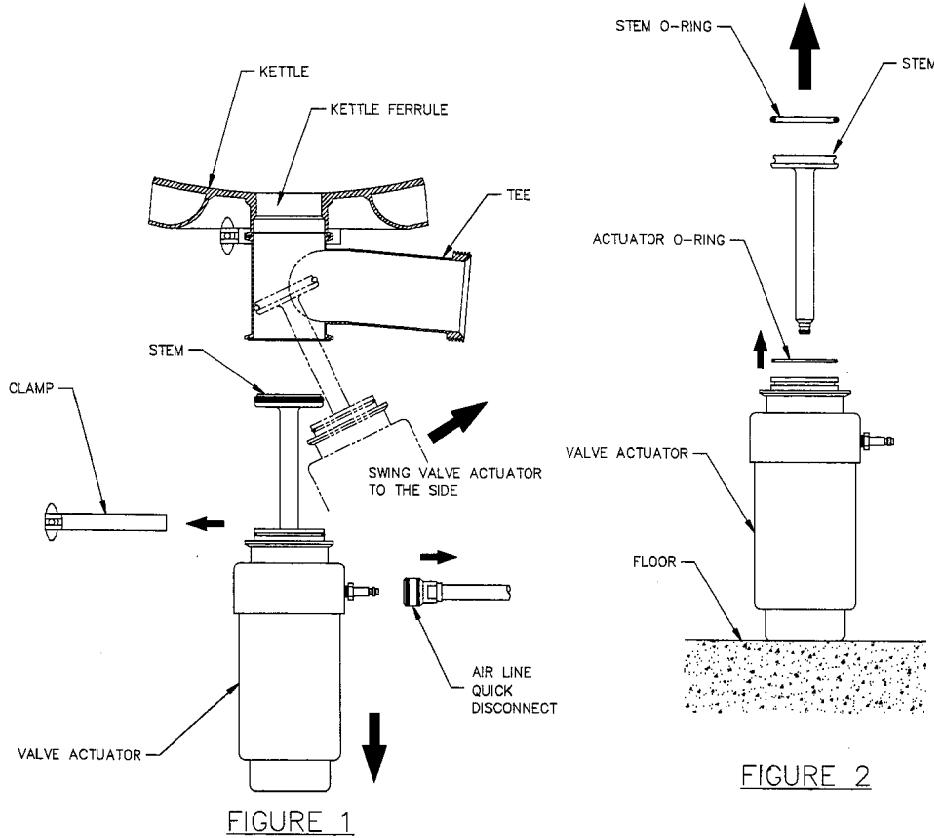
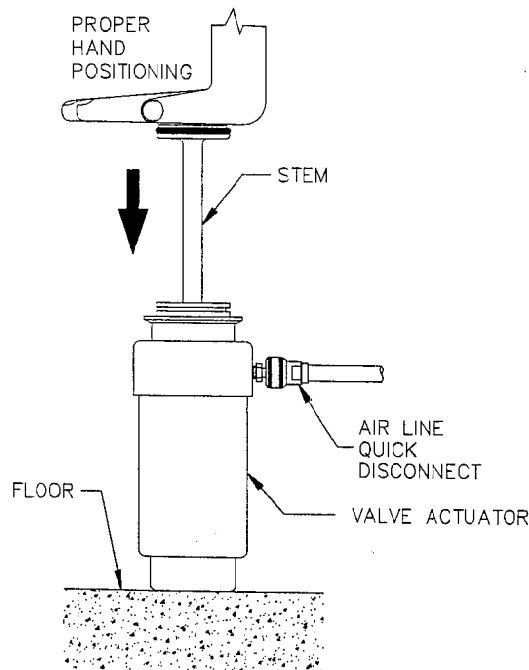

FIGURE 2
FIGURE 1
WHEN THERE IS TOO MUCH OR TOO LITTLE PRESSURE ON THE SCRAPER BLADE, BEND THE BACK STOP DOWN TO DECREASE THE PRESSURE OR BEND IT UP TO INCREASE THE PRESSURE ON THE BLADE WHEN SCRAPING THE KETTLE SURFACE (PER. FIG. 1).
1. DISCONNECT THE AIR LINE FROM THE VALVE ACTUATOR AS SHOWN IN FIGURE 1.
2. WHILE SUPPORTING THE VALVE ACTUATOR REMOVE THE BOTTOM CLAMP FROM THE TEE, THEN LOWER THE VALVE ACTUATOR AND SWING IT TO THE SIDE UNTIL THE STEM IS CLEAR OF THE TEE AS SHOWN IN FIGURE 1. GENTLY LOWER VALVE ACTUATOR TO THE FLOOR AS SHOWN IN FIGURE 2.
3. REMOVE THE STEM FROM THE VALVE ACTUATOR BY PULLING UP WHILE HOLDING THE VALVE ACTUATOR IN PLACE AS SHOWN IN FIGURE 2. NEXT REMOVE THE O-RING FROM THE ACTUATOR & STEM AS SHOWN IN FIGURE 2.
- B) PLACE STEM IN THE VALVE ACTUATOR AS SHOWN IN FIGURE 1.
- C) APPLY PRESSURE TO THE TOP OF THE STEM AS SHOWN IN FIGURE 1.
CAUTION: USE THE FLAT OF THE HAND AS SHOWN IN FIGURE 1. FAILURE TO FOLLOW THIS MAY RESULT IN PERSONAL INJURY.